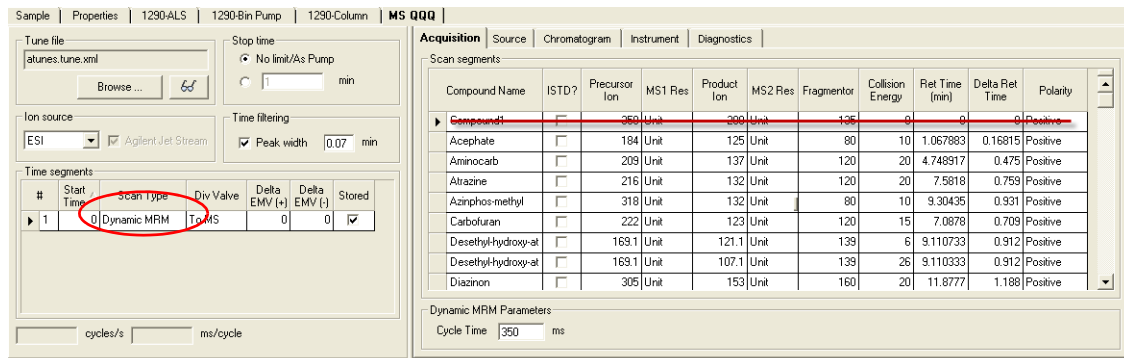

Figure 15
- If you manually select Dynamic MRM in the “Scan Type” under “Time Segments” as shown in Figure 15 before you update the method, the transition table is cleared to contain only “Compound1”. When you update the method, the compounds in the data file are added. As shown in Figure 15 you can delete the extraneous “Compound1”. (To delete the first row, select the row, right-click the table and click **Delete Row**.)